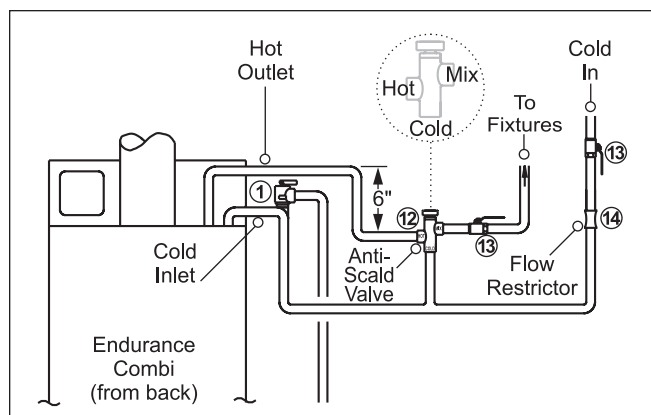

Figure 16. Domestic Water Piping.
1. Connect tempering (mixing) valve 12 “Hot” port to hot water outlet from unit. This valve should be rated no higher than 120°F mixed delivery temperature or as local codes dictate. LAARS RECOMMENDS ANTI-SCALD TEMPERING (MIXING) VALVES (see Figure 16).